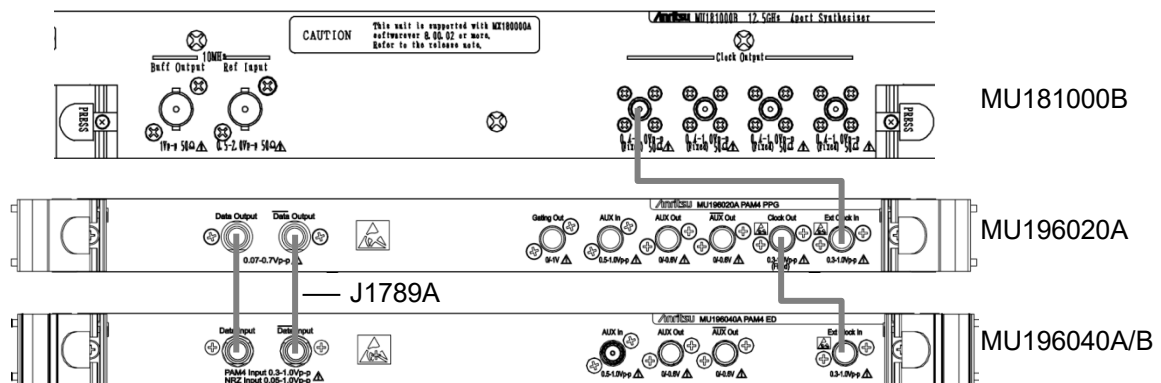

Figure 5.3.3-1 Connection Diagram for Input Level Test
2. Connect the measuring instrument cables as shown in Figure 5.3.3-1.
4. Configure the settings for the MU196020A and MU196040A/B as shown in items 1 to 4 of Table 5.3.3-2.
Refer to Figure 5.3.3-1 for the device connection.